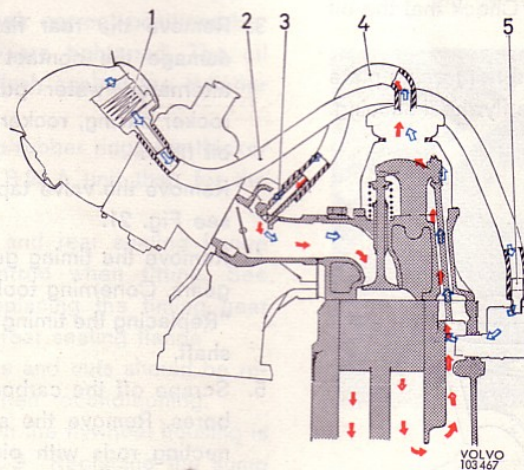

Fig. 19 Positive crankcase ventilation
Between the rocker arm casing and the intake manifold there is a hose (4, Fig. 19). It is connected to the intake manifold by means of a calibrated nipple (3). (This nipple should be cleaned every